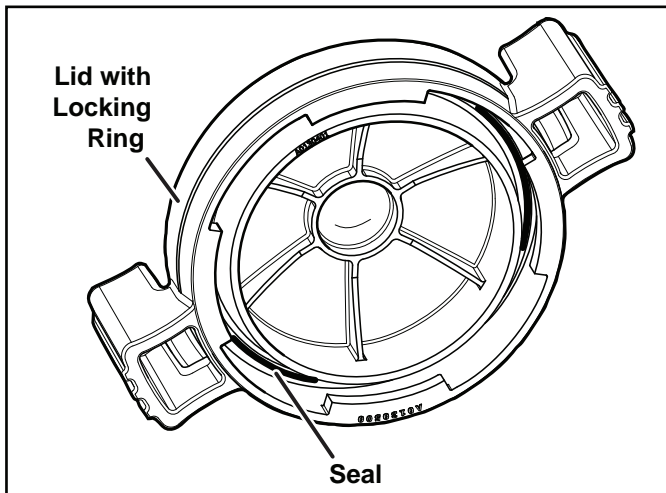

Figure 13. O-ring in Lid Assembly
4. Following the markings on the locking ring, turn the ring counter-clockwise until the 'START' markings align with the ports. See Figures 13 and 14.